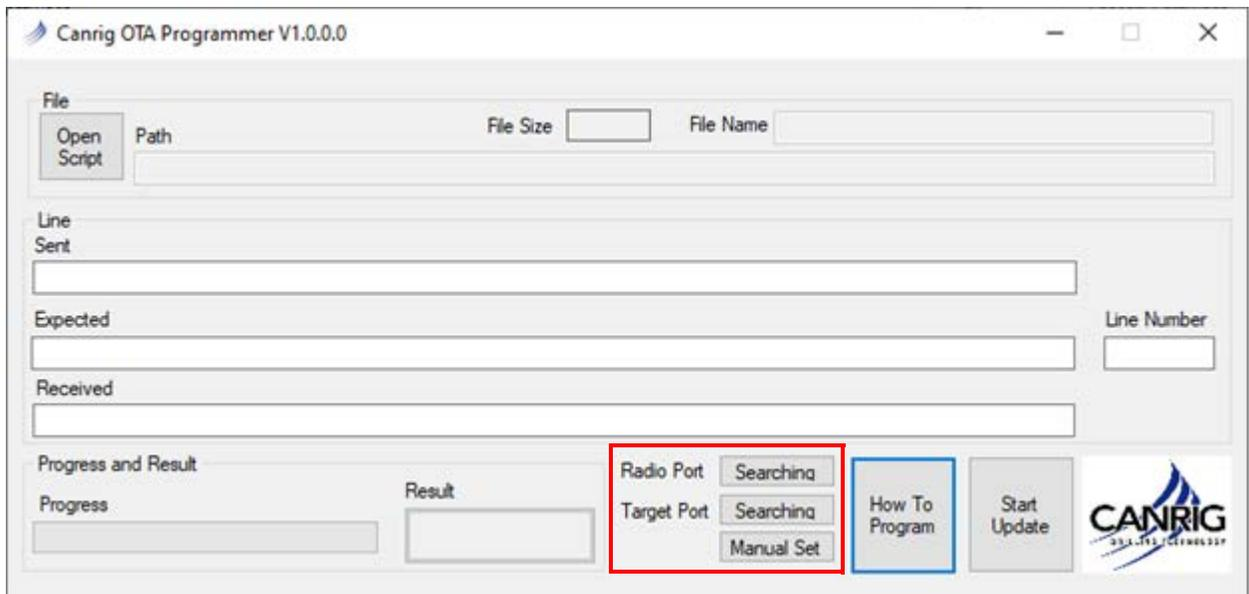
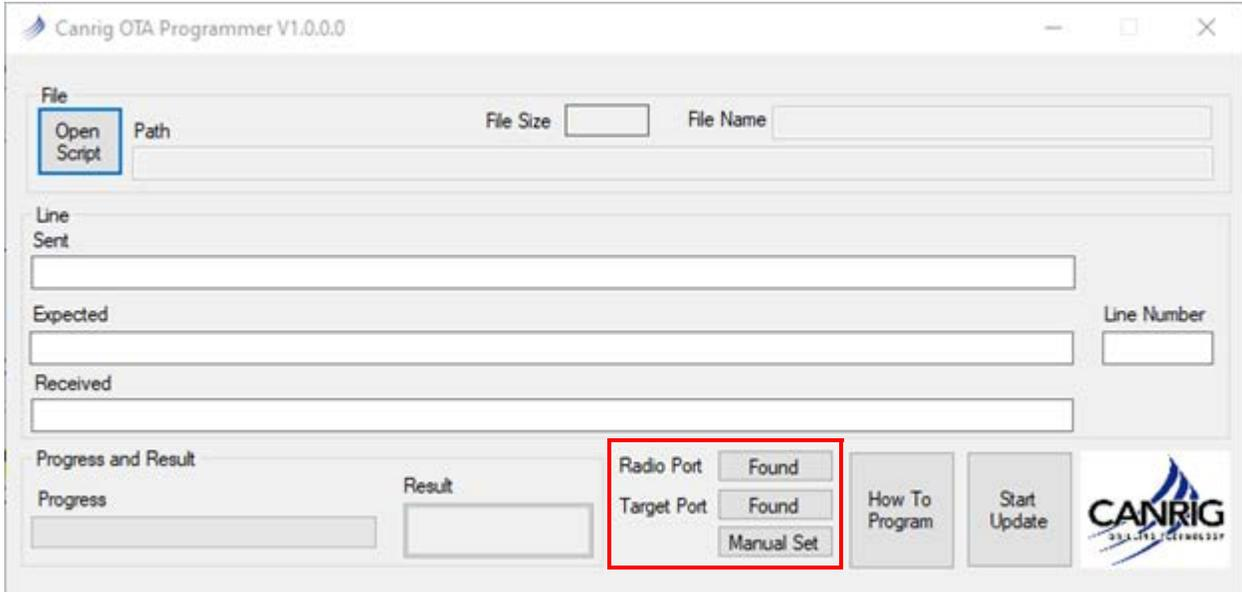

Figure 2: Searching for Radio Port and Target Port
Figure 3: Radio Port and Target Port found
2. The OTA Programmer will automatically search for the **Radio Port** and **Target Port** (Figure 2). When these are found, the screen will change accordingly (Figure 3 on page 4).